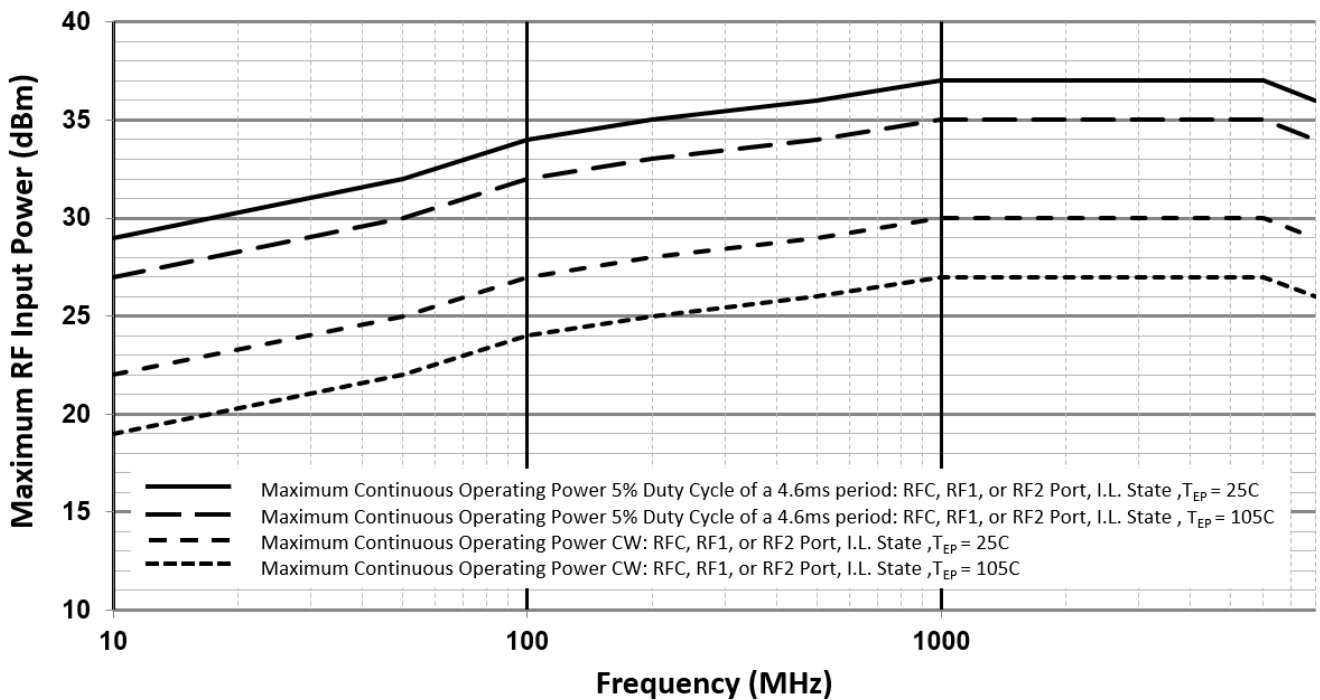

Figure 3. Maximum RF Input Operating Power vs. RF Frequency ($Z_s = Z_L = 50\Omega$)
2. Levels based on: $V_{CC} = 2.7V$ to $5.5V$, $100MHz \leq f_{RF} \leq 8GHz$, $Z_s = Z_L = 50\Omega$. See Figure 3 for power handling derating vs. RF frequency.
3. The input 1dB compression point is a linearity figure of merit. Refer to the Absolute Maximum Ratings section and Figure 3 for the maximum RF input power.